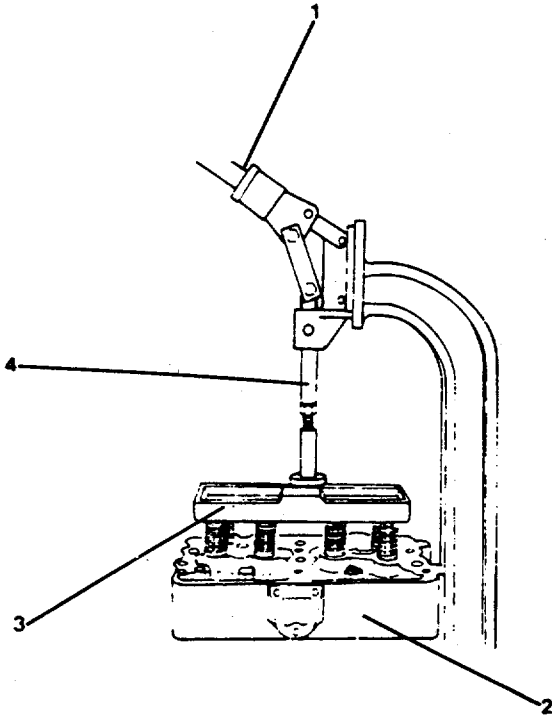

FIGURE 4-2. Removing Valves.
- c. Use the valve spring compressor stand and the valve spring compressor plate (FIGURE 4-2) to compress the valve springs.
- (7) Push down on the handle (1, FIGURE 4-2) and disengage the locking pin from the plunger (4). Raise the plunger (4) from the cylinder head (2).